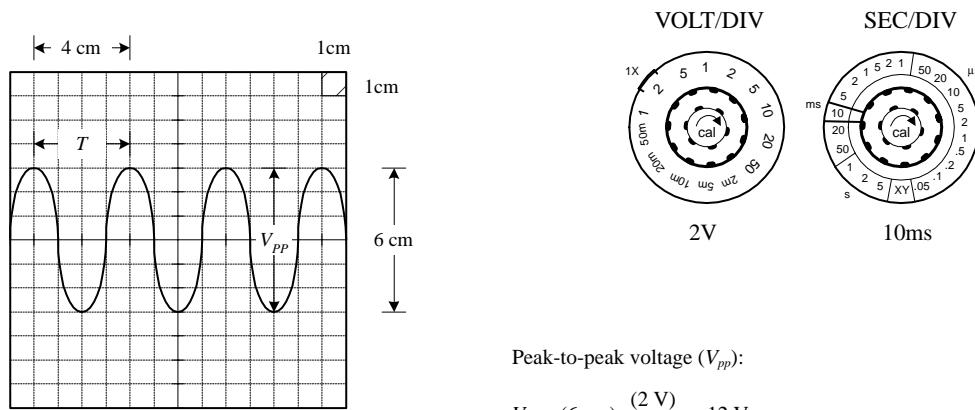

FIGURE 14.35
9. Once you have an image of your signal on the screen, take a look at your VOLT/DIV and SEC/DIV knobs and record these settings. Now visually measure the period, peak-to-peak voltage, etc. of the displayed image, using the centimeter gridlines on the scope's screen as a ruler. To find the actual voltages and times, multiply the measurement made in centimeters by the VOLT/DIV (or VOLTS/cm) and SEC/DIV (SEC/cm) recorded set values. The example in Fig. 14.35 shows how to calculate the peak-to-peak voltage, root-mean-square voltage, period, and frequency of a sinusoidal waveform.